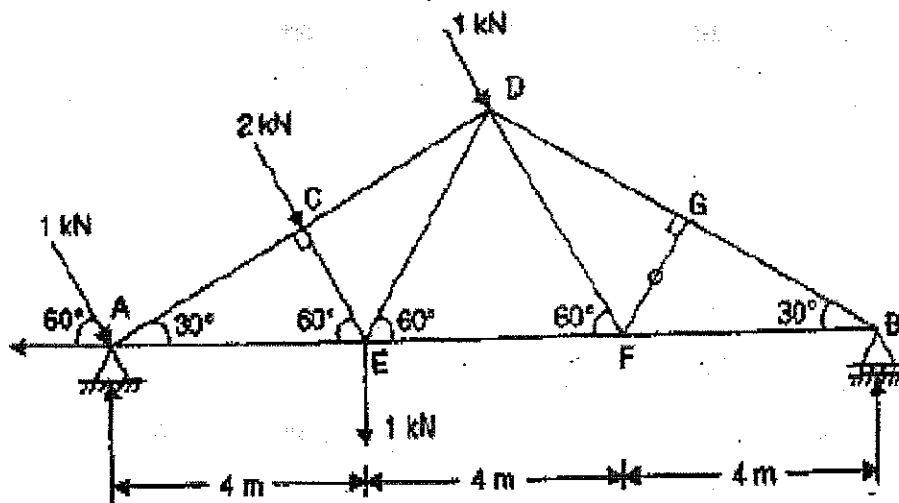

Figure 2
5. Determine the forces in the truss shown in Figure 2 which is subjected to inclined loads.